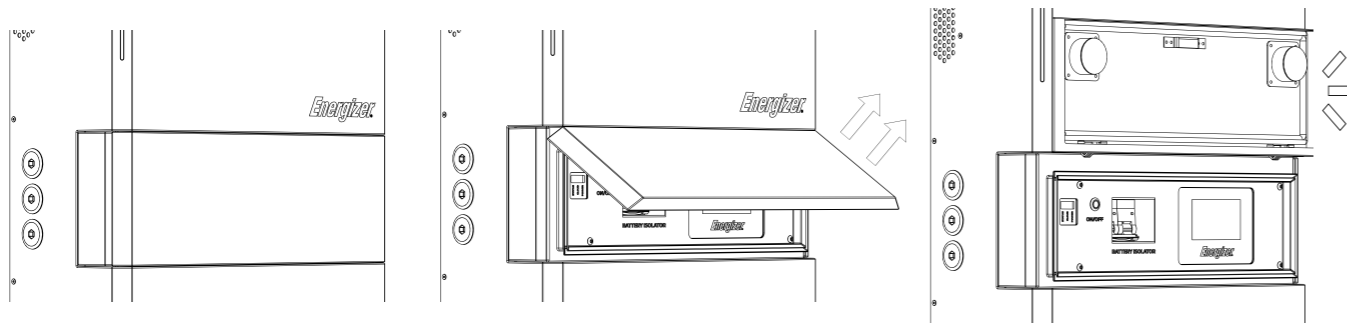

Fig. 14. HP-6M Magna-Flap & Installer Access Panel
- a. Lift the Magna-Flap on the HP-6M as shown in Fig. 14. to uncover the Installer Access Panel, housing the Battery Isolator and the LCD.